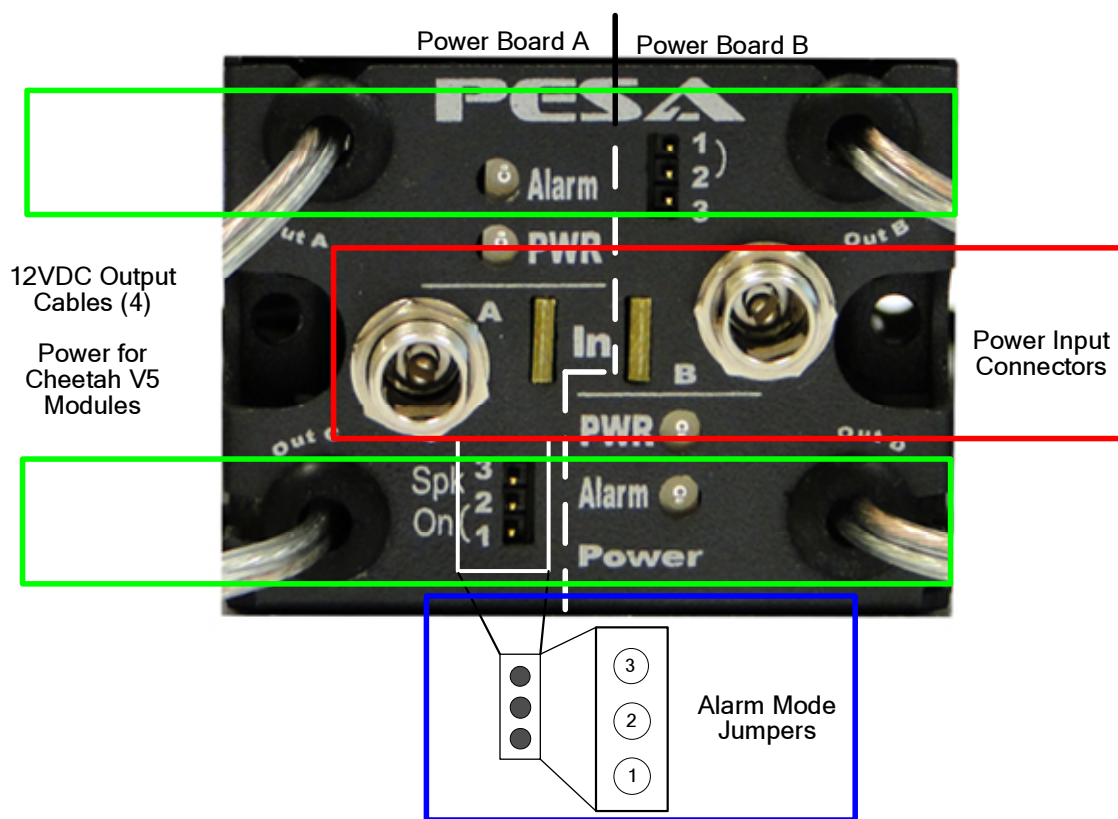

Figure 3. Power Distribution Module
- Connect the power output lead from the external 12VDC power supply to either of the main power input connectors on the distribution module as shown in Figure 3.
As shown by Figure 3, there are two power input connectors – one for connection to the main external power supply, and the second for connection to a second external power “brick” for automatic power redundancy. One external power supply connected to either of the power input connectors can supply power for up to four V5 modules. While some load sharing may occur when a redundant power supply is used, the second supply, if connected, serves as a self-switching back-up power supply in the event the main supply should ever fail.
The power distribution module contains two circuit boards each with one input power connector, two output power connectors, status monitor LEDs and alarm mode select pins. In Figure 3, these are identified as Power Board A and Power Board B. Even though the input power connector, status LEDs and alarm jumpers are specific to board 1 or 2, all four output connectors are always powered and monitored for loss of output.